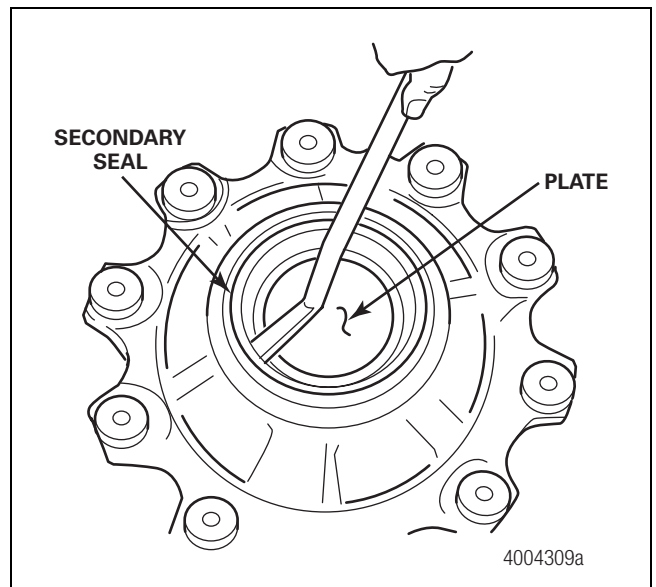

Figure 4.30
10. Remove the secondary oil seal from the hub. When you remove the secondary seal, you must protect the interior of the unitized hub with a plate. Figure 4.30.